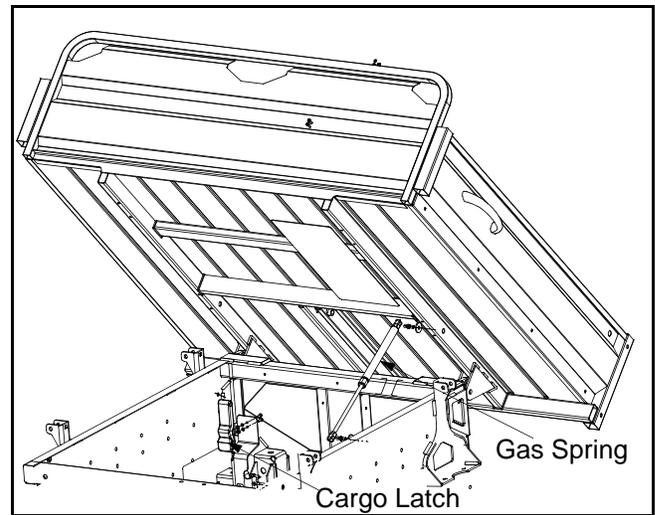

Figure 13
- Empty cargo by hand and unhook cargo box latch located in front of box. See Figure 13.